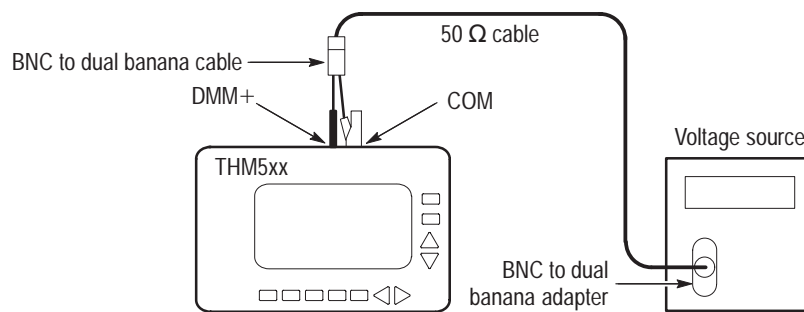

Figure 2: DC and AC voltage accuracy test setups
2. Connect the voltage source output to the THM500 series instrument DMM and COM inputs as shown in Figure 2. Assure that the ground connection for each adapter connects to the common (or ground) connector of its associated instrument.